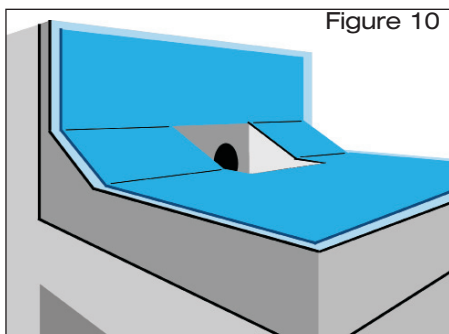

Figure 10
2.4 Cut the connecting sheet on site to a size of approx. 700 mm x 1000 mm out of the existing bitumen roof sealing sheet (Fig. 10).